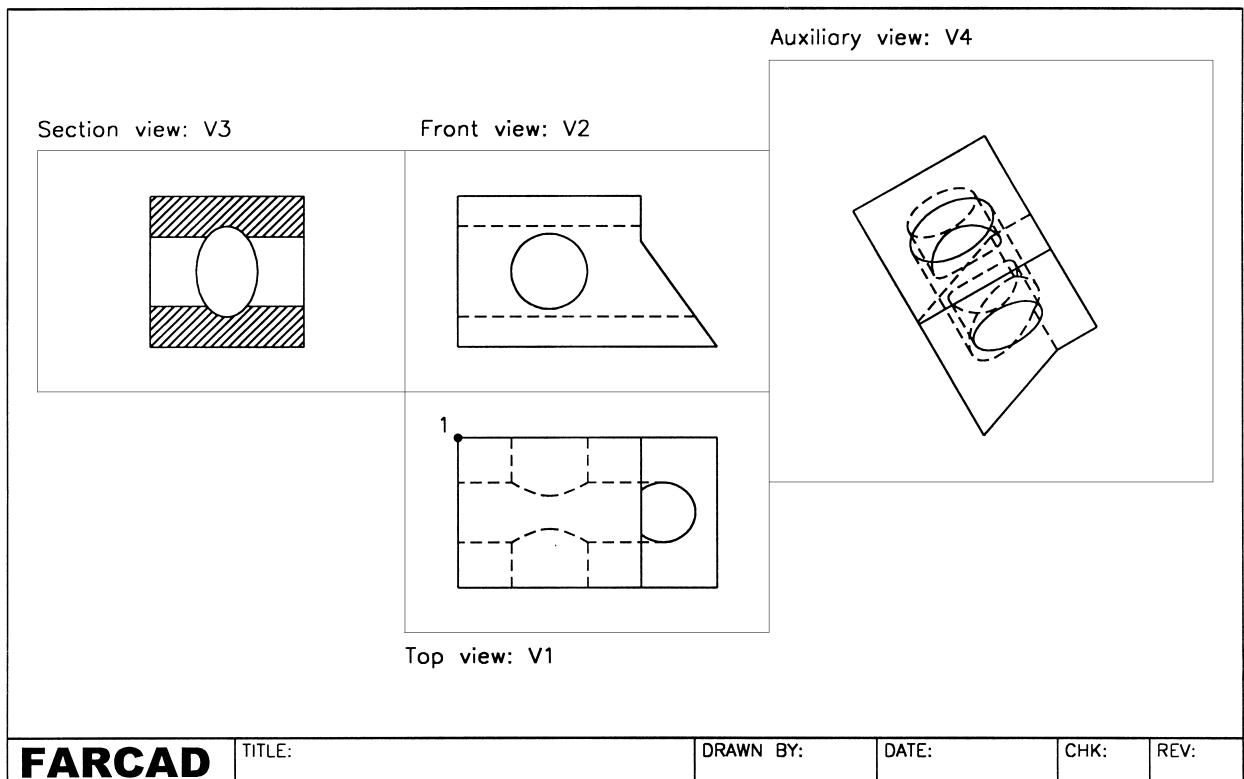

Figure 43.2 The setup View and Drawing example 2 – the slip block.
- c) refer to Fig. 43.2
- 12 The model layout is now as Fig. 43.2 and can be saved